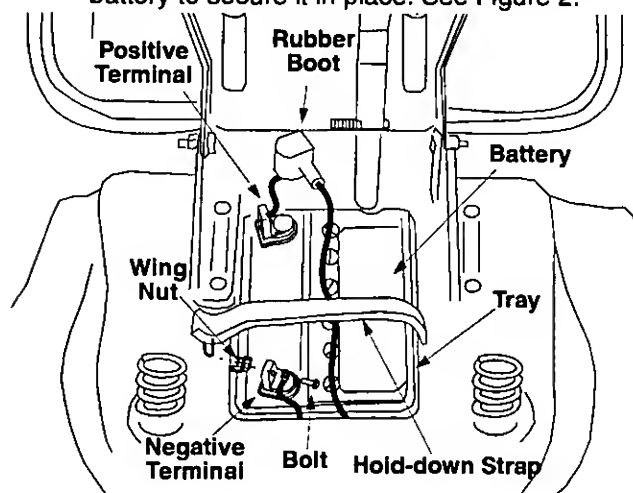

Figure 2
- Place the hold-down strap in position over the battery to secure it in place. See Figure 2.